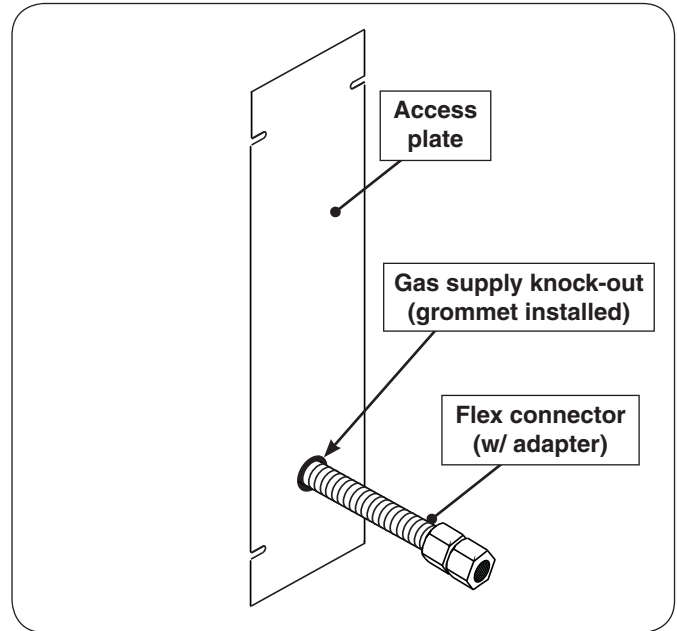

Fig. 12-1 Access plate view & install orientation
2. Remove the plastic grommet fastened to the inside of the post and insert it into the newly created opening. Then route the flex connector through the opening. See Fig. 12-1 and 12-2.